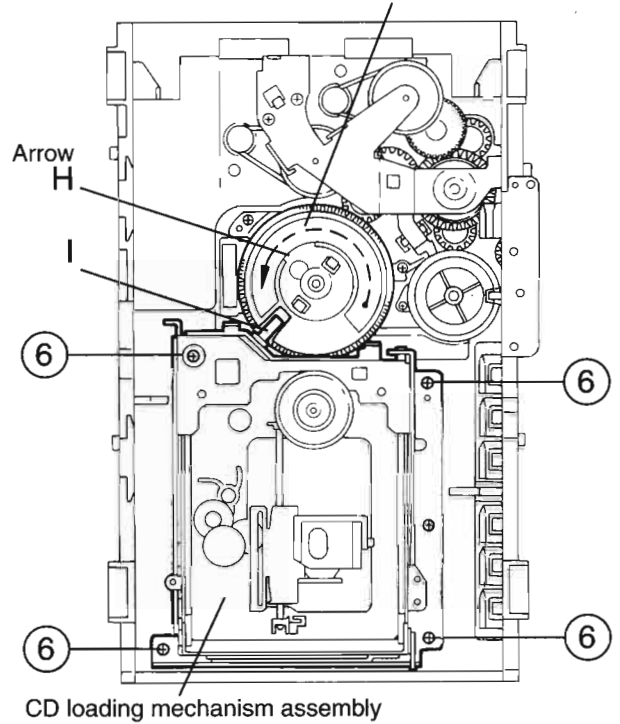

Fig.10
### ■ Removing the CD loading mechanism assembly (See Fig.10)
1. While turning the cams R1 and R2 assembly in the arrow direction "H", align the shaft "I" of the CD loading mechanism assembly to the position shown in 2. Fig.10.